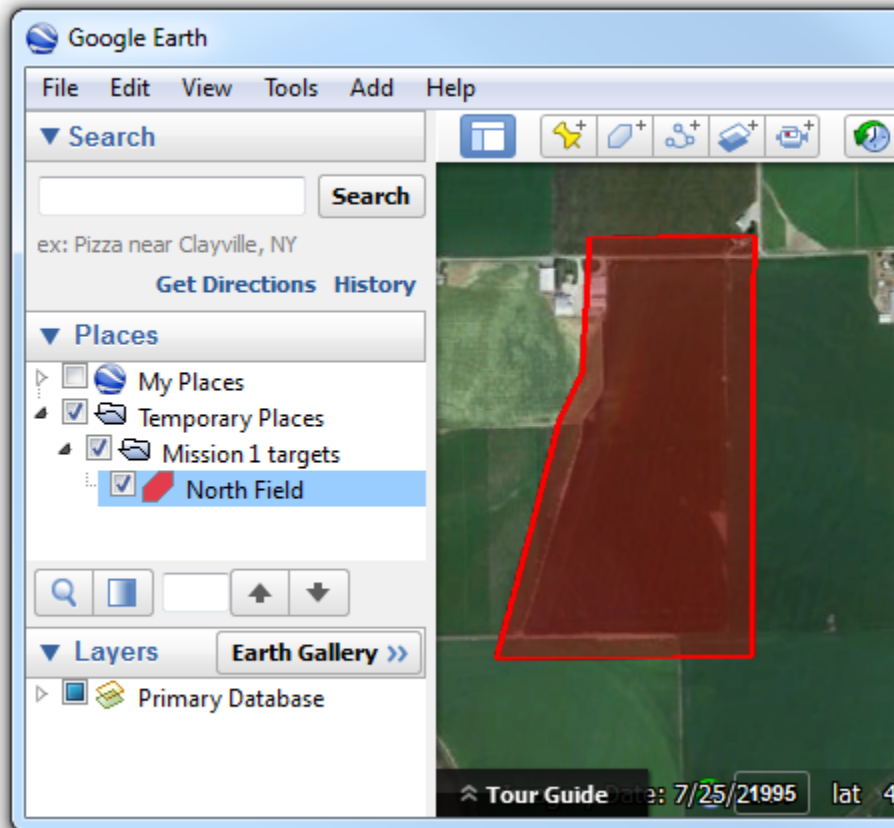

Fig. 3.21: KML target definitions in **Google Earth**
3. Click points around the desired area to define a polygon (Fig. 3.21). Polygon fill colors, border widths, etc. are customizable in **Google Earth** and have no effect on the flight computer.